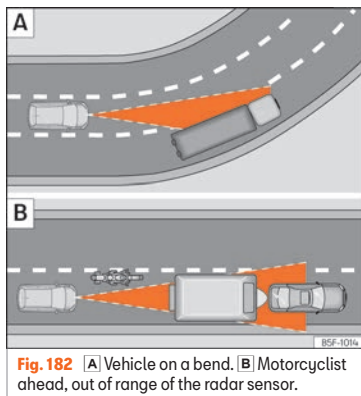

Fig. 182 [A] Vehicle on a bend. [B] Motorcyclist ahead, out of range of the radar sensor.
The ACC may not detect the vehicle in front on a curve, or may regulate the distance from vehicles in other lanes »» Fig. 182 [A].
- Vehicles that are not aligned while driving or that are outside the sensor's detection area, such as motorcycles »» Fig. 182 [B]